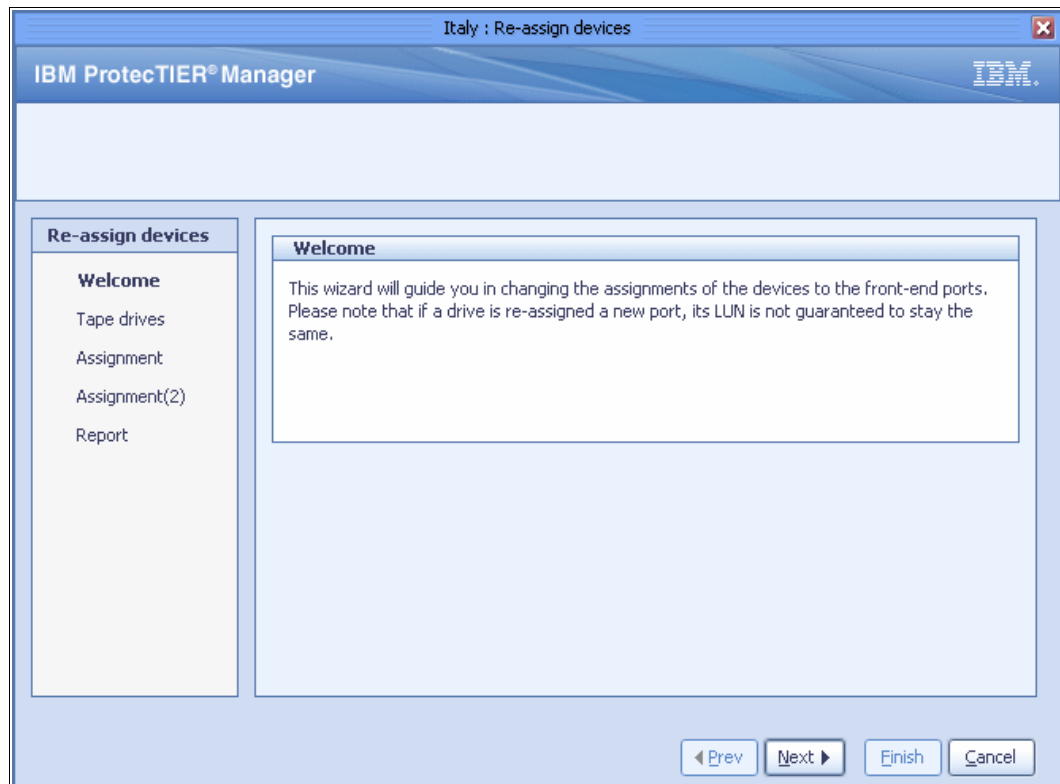

Figure 10-24 Re-assign devices: Welcome window
1. From the menu bar, select **VT** → **VT Library** → **Re-assign devices** or click **Re-assign devices** on the General tab of the Library view. The Re-assign Devices wizard Welcome window opens (Figure 10-24).